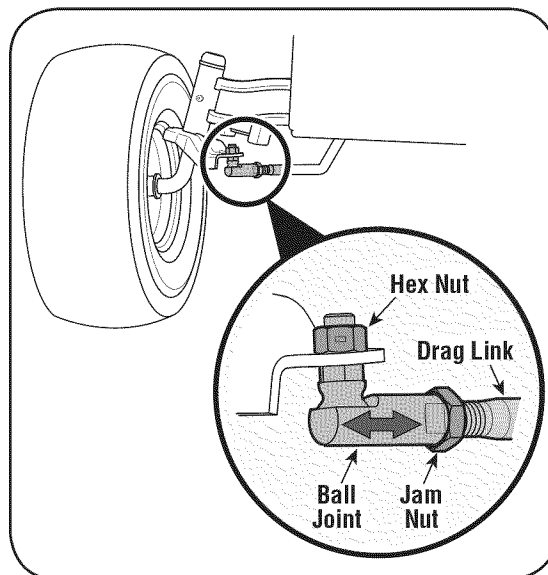

Figure 5-5
- Loosen the jam nut found on the drag link at the rear of the ball joint. See Fig. 5-5.
- Remove hex nut on the top of ball joint. See Fig. 5-5.